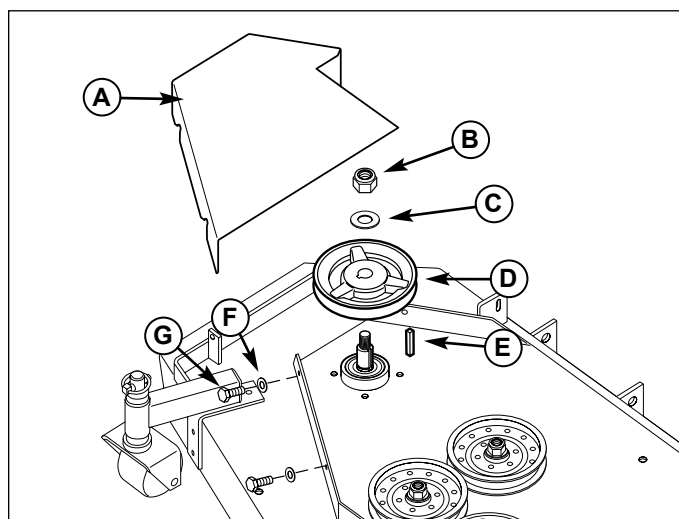

Figure 21. Belt Guard & Pulley Removal
1. Remove the right-hand belt guard (A, Figure 21) and save. Remove and discard the two front 5/16-18 x 1" bolts (G), 5/16" washers (F) and 5/16" body clips.
3. Remove the right-hand spindle pulley (D), 5/8" nylon lock nut (B), 5/8" washer (C) and 1/4" key (E). Use a block of wood to keep the blade from spinning while removing the 5/8" nut.